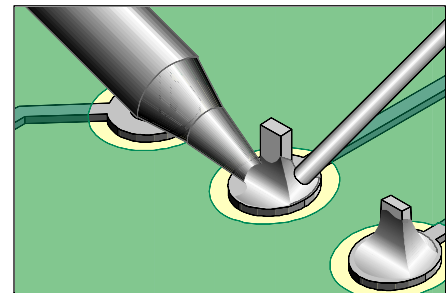

Figure 2: Feed solder into the joint from the side opposite from the iron tip until the proper fillet is achieved.
5. Immediately feed solder into the joint from the side opposite from the soldering iron tip until the proper fillet is achieved. Remove the solder then remove the iron. The iron may be swept over the end of the component lead to cover it with solder. (See Figure 2).